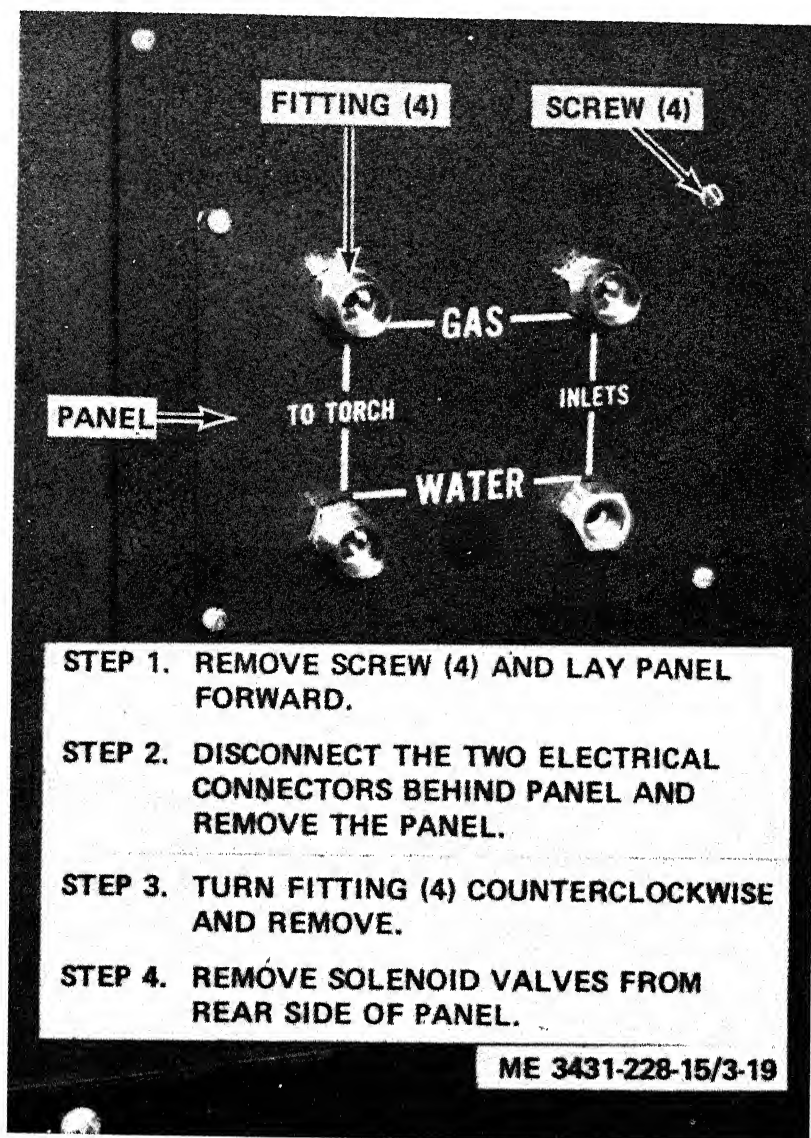

Figure 3-19. Solenoid valves, removal and installation.
- a. *Removal.* Refer to figure 3-19 and remove the gas or water solenoid valve.
- b. *Installation.* Refer to figure 3-19 and install the gas or water solenoid valve.